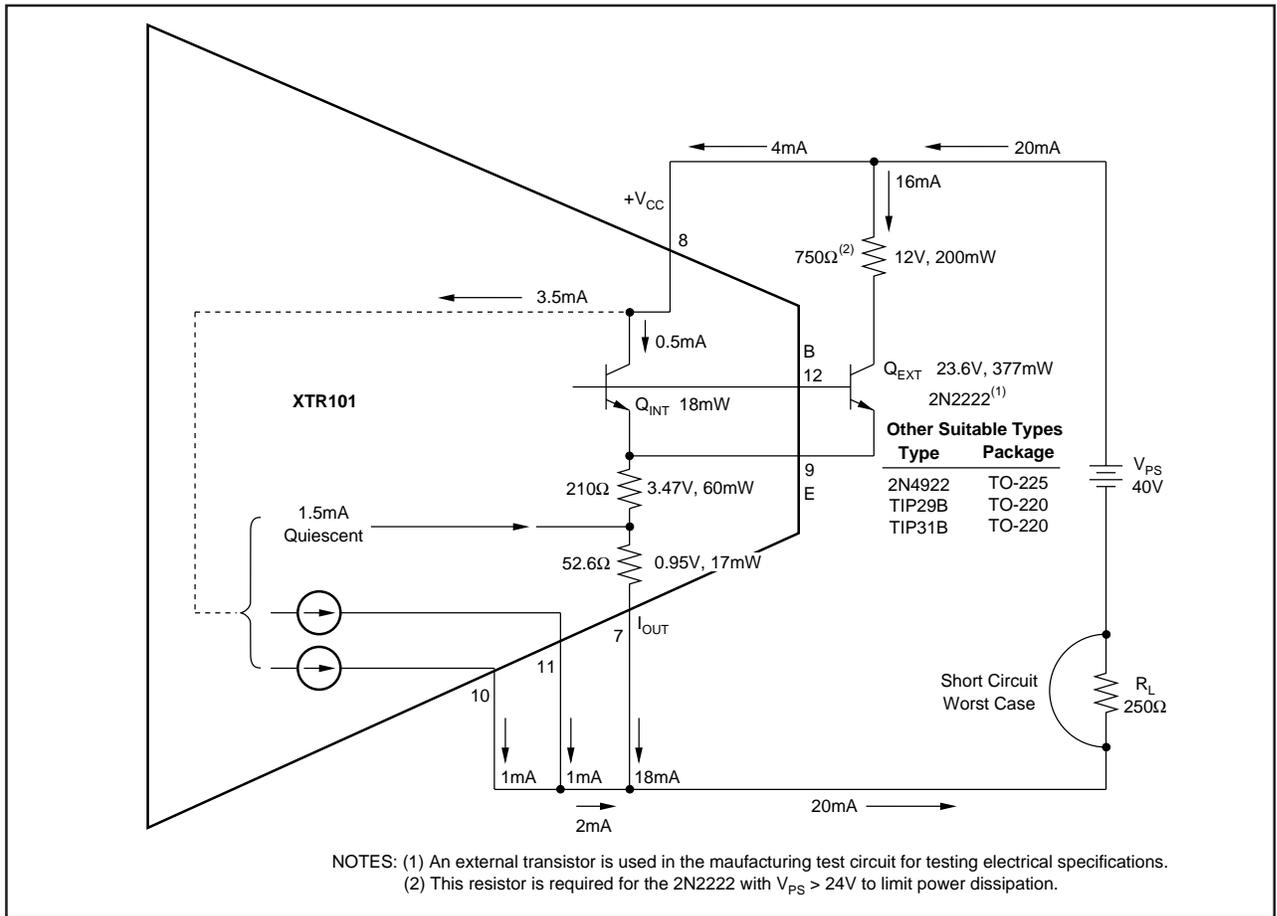

FIGURE 2. Power Calculation of XTR101 with External Transistor.
The optional external transistor, when used, is connected in parallel with the XTR101's internal transistor. The purpose is to increase accuracy by reducing heat change inside the XTR101 package as the output current spans from 4-20mA. Under normal operating conditions, the internal transistor is never completely turned off as shown in Figure 2. This maintains frequency stability with varying external transistor characteristics and wiring capacitance. The actual "current sharing" between internal and external transistors is dependent on two factors: (1) relative geometry of emitter areas and (2) relative package dissipation (case size and thermal conductivity). For best results, the external device should have a larger base-emitter area and smaller package. It will, upon turn on, take about $[0.95 (I_O - 3.3\text{mA})]\text{mA}$. However, it will heat faster and take a greater share after a few seconds.
tions shown in Figure 2. Thus the 2N2222 will safely operate below its 400mW rating at the upper temperature of +85°C. Heat sinking the 2N2222 will result in greatly reduced accuracy improvement and is not recommended.